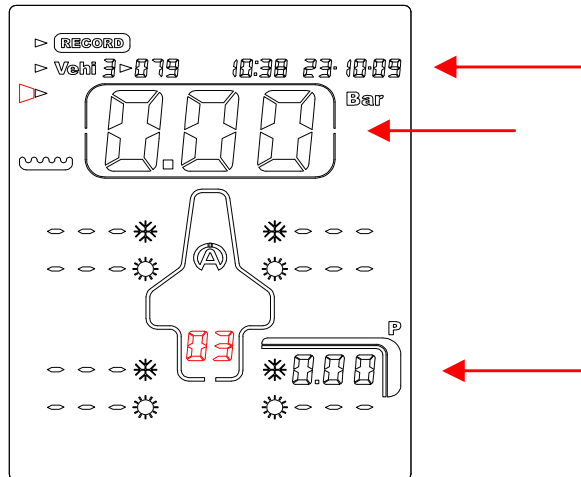

Figure 3
- 4) With the button  or , select the « **FACE** » (*figure 3*)
On the example (*figure 3*), the Tyrecontrol is ready to record, for the vehicle 3, a set of captures in the Set « 03 » before race , (« Set » free of the vehicle 3) while starting with a capture of pressure on the right rear tyre.